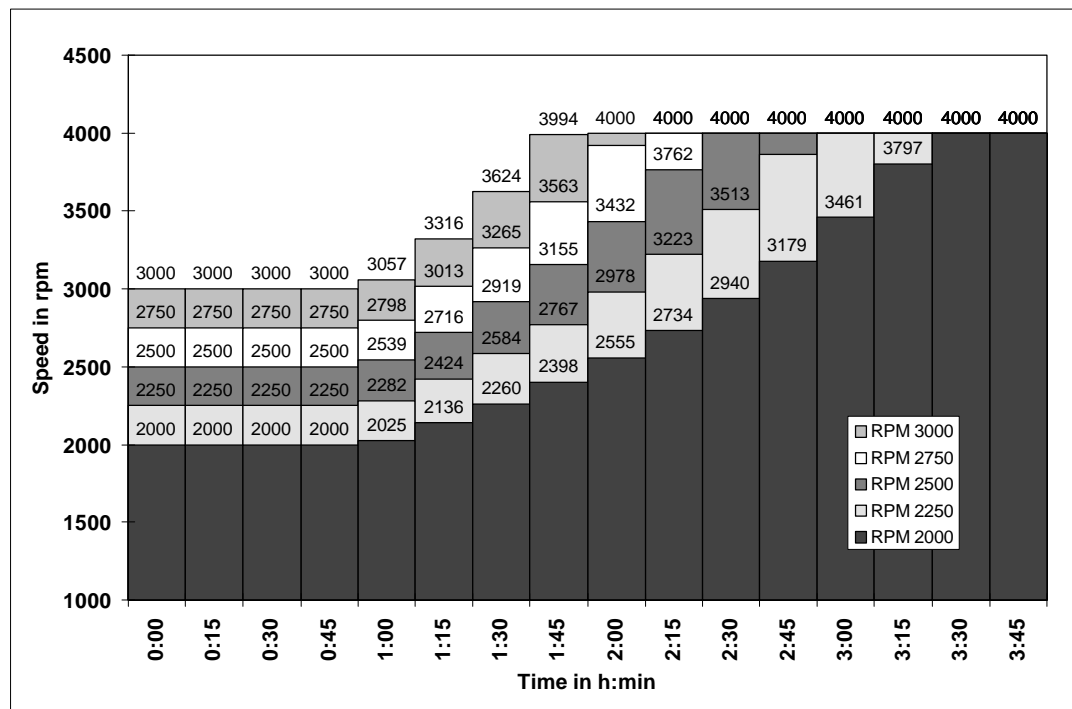

Figure 4: AEO step up examples
- If the running period however exceeds 60 minutes, the speed is increased according to the scheme in figure 4.